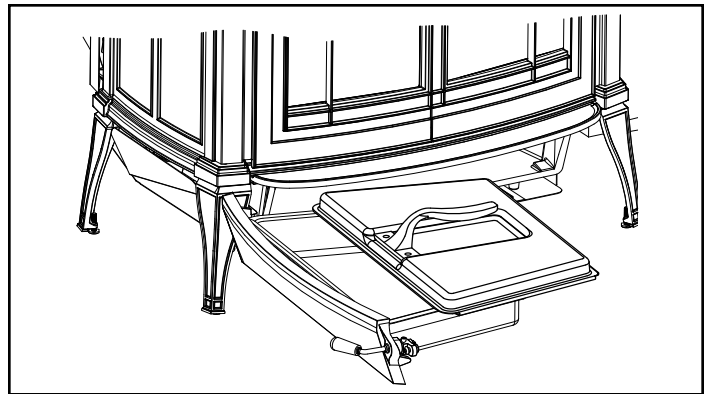

Figure 40 - Be sure the cover is securely attached before removing the ash pan.
- Slide the cover onto the pan, making sure it is securely closed. (Figure 40)